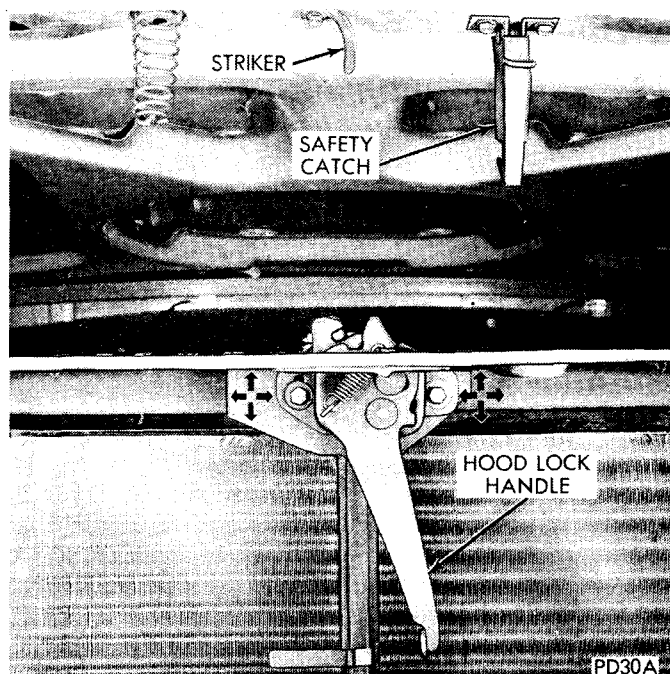

Fig. 8—Hood Lock Striker Adjustment (D-W 1-2-3)
(7) Disengage hood lock and check latch imprint in substance used. A properly adjusted lock will show a centered position on striker. If imprint is not proper, readjust hood lock (Fig. 8).